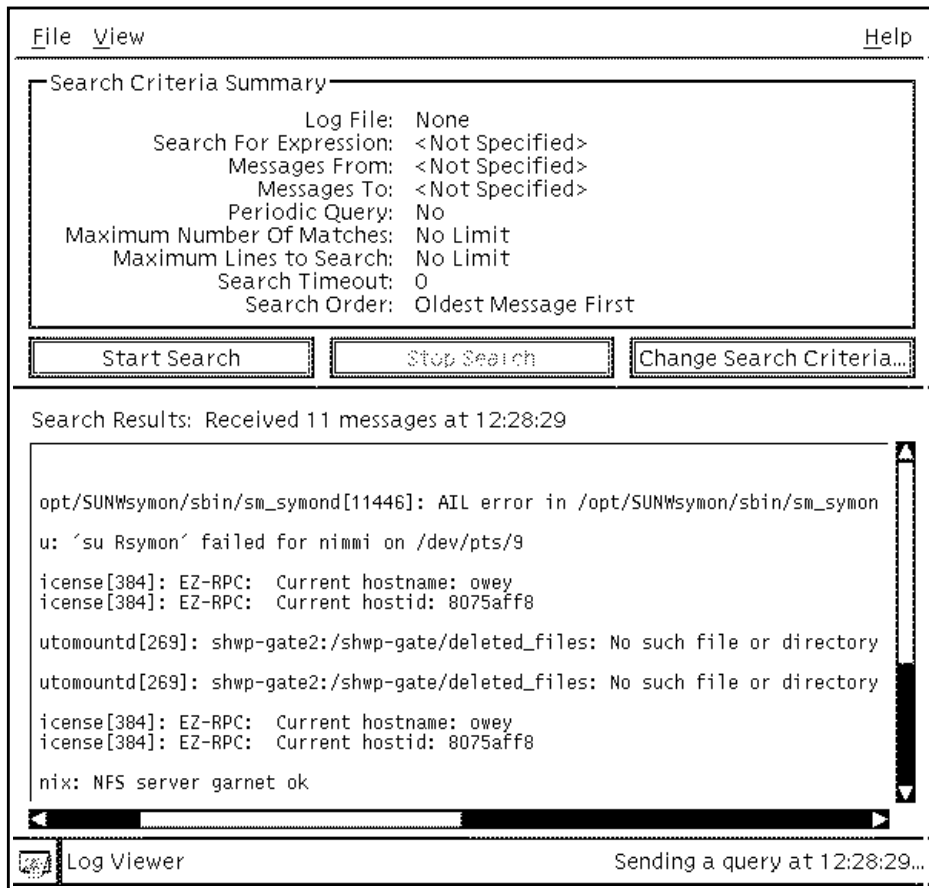

FIGURE 3-22 Log File Viewer Window
- Open the Log Viewer console as shown in FIGURE 3-22.
The Search Results window is empty until you specify the search criteria in the Search for Expression entry (see FIGURE 3-22) and initiate the search. You can specify your own search criteria, retrieve and use a stored search criteria, or retrieve and modify a stored search criteria. Log entries retrieved by a search include the items listed in TABLE 3-7.
- **To initiate a search, select the Start Search button from the Log File Viewer window (FIGURE 3-22).**
1. **Select the Change Search Criteria button in the Log File Viewer window (FIGURE 3-22).**